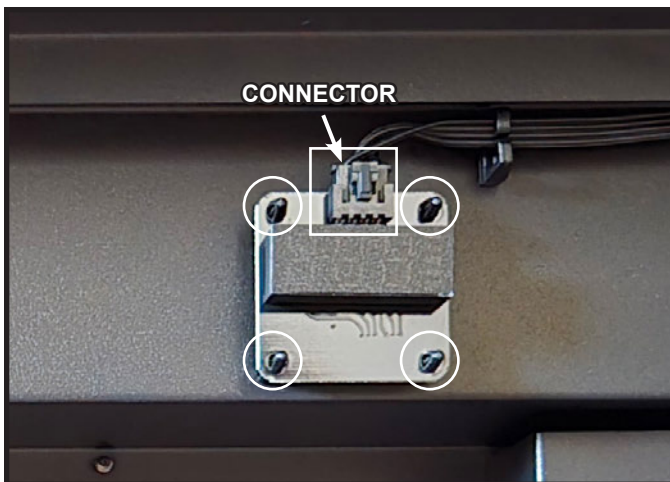

Figure 14 Setting Indicator Board
2. Disconnect the wire harness from the setting indicator connector. See Figure 14.
3. Use a needle-nose pliers to compress each barbed clip while lifting the setting indicator board evenly to disengage it from the clip. See Figure 14.